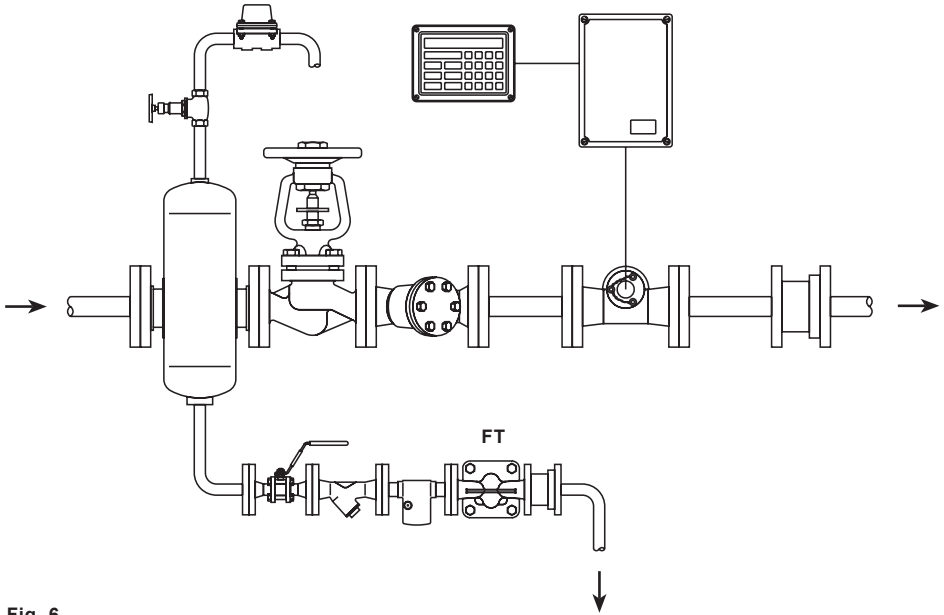

Fig. 6
- 3.5** The trap should be fitted below the outlet of the steam system, with a small drop leg immediately preceding the trap, typically 150 mm (6") see Figure 6. If no drop leg is allowed for then it may be possible (under low load conditions) for steam to flow over the condensate in the bottom of the pipe and reach the trap.